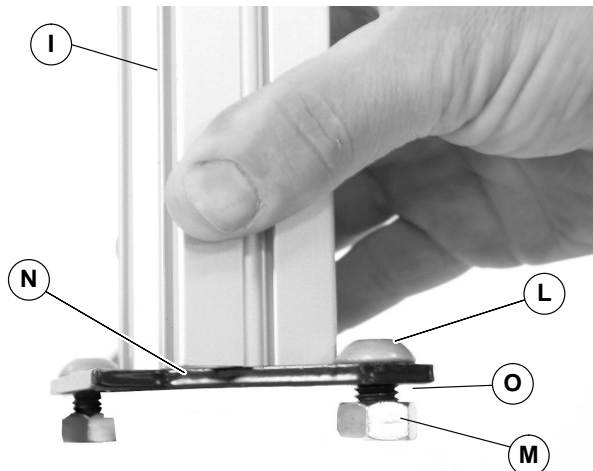

Figure 4
- Place a button screw (L of Figure 4) through each hole in the end plate (N) of a leg tube (I). Attach a hex nut (M) to the screw. Leave a gap (O) between the nuts and end plate.